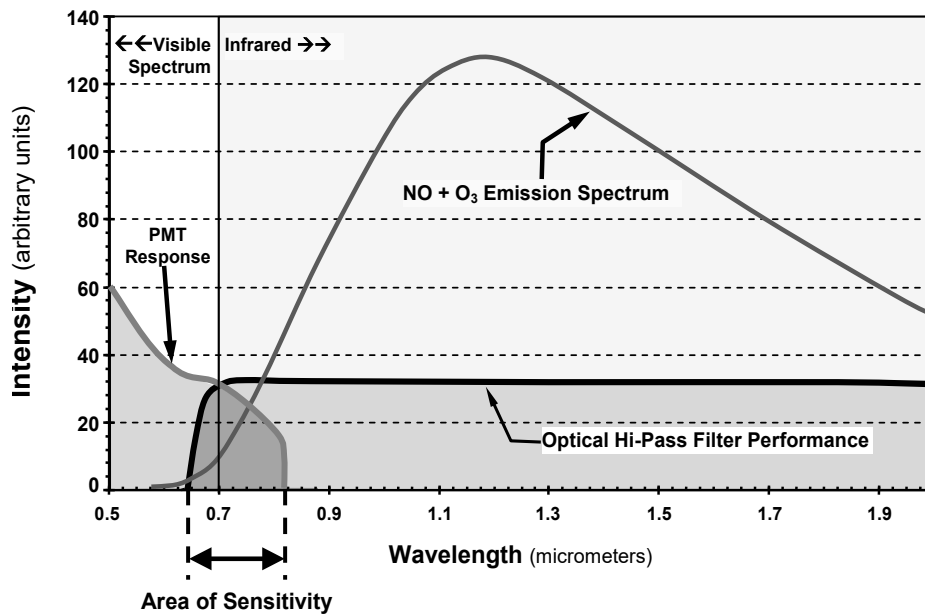

Figure 6-2. Sensitivity Spectrum
- All things being constant (temperature, pressure, amount of ozone present, etc.), the relationship between the amount of NO present in the reaction cell and the amount of light emitted from the reaction is very linear. If more NO is present, more IR light is produced. By measuring the amount of IR light produced with a sensor sensitive in the near-infrared spectrum (see Figure 6-2) the amount of NO present can be determined.
The sensitivity curve includes a small portion of the visible light spectrum (see Figure 6-2), therefore it is important to ensure that the reaction cell is completely sealed with respect to light. To ensure this: